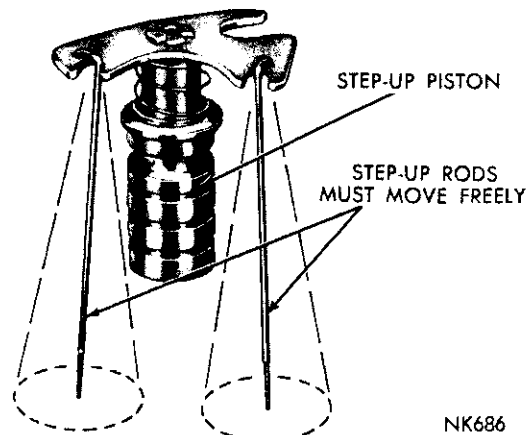

Fig. 11—Step-up Piston and 2 Stage Rods
(6) Before installing step-up piston, be sure step-up rods are able to move freely each side of vertical position, (Fig. 11). The step-up rods must be straight and smooth.
(7) Slide step-up piston gasket down into position in piston well, then install step-up piston spring and